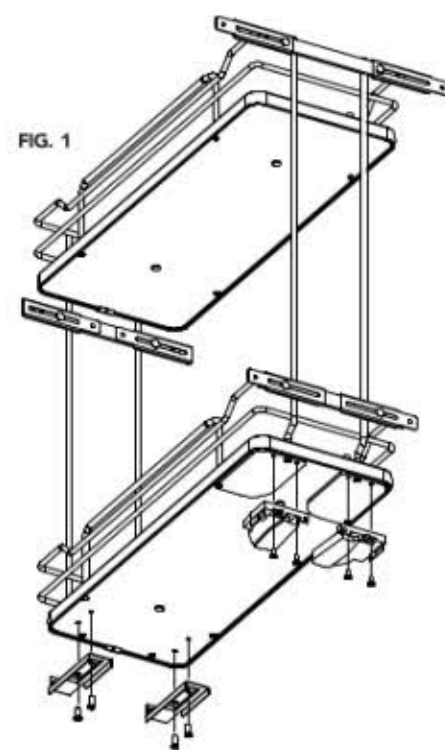

FIG. 1
- 1) Using the mounting template locations, pre-drill (4) holes using a 3/32" drill bit.
- 2) Secure the slide assembly to the floor of the cabinet using (4) #8x3/4" pan head deep thread screws.
- 3) Assemble release levers using (4) #6x5/8" flat head screws and rear slide catch using (4) Euro screws (Fig. 1).